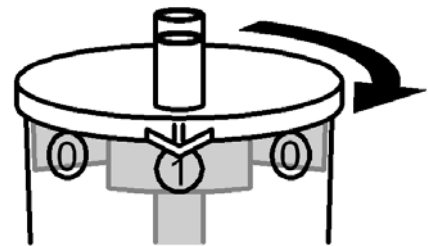

Fig. 3
- To entrap first polyp, rotate jar and align arrow with number "1" (Fig. 3).